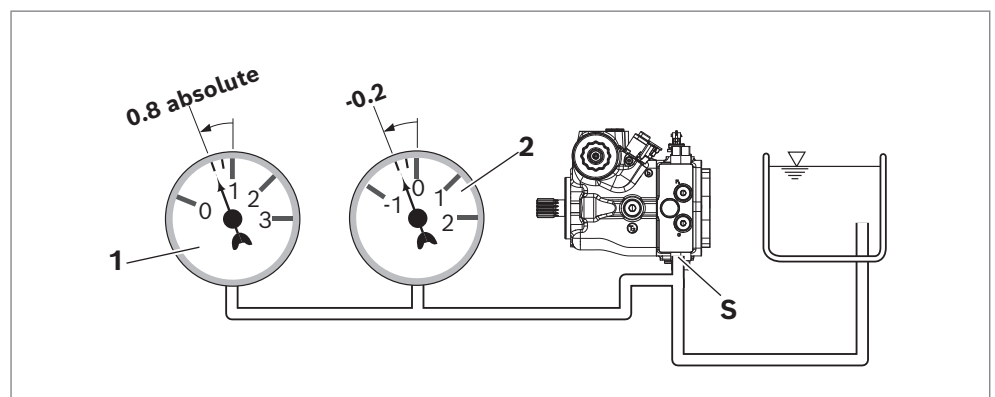

Fig. 7: Suction pressure
- ▶ Make sure that a minimum suction pressure of 0.8 bar absolute is present at port **S** (0.5 bar absolute for cold start) during operation in all installation positions and installation locations for the axial piston pump, see Fig. 7. See data sheet for other pressure values.